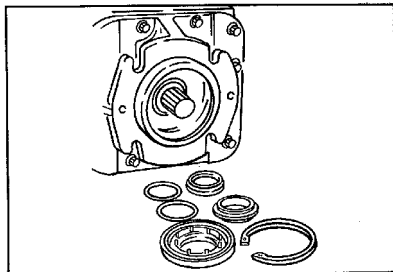

Figure 18.
4. Remove steel stationary seal (this generally comes out with retainer) (refer to Fig. 18).